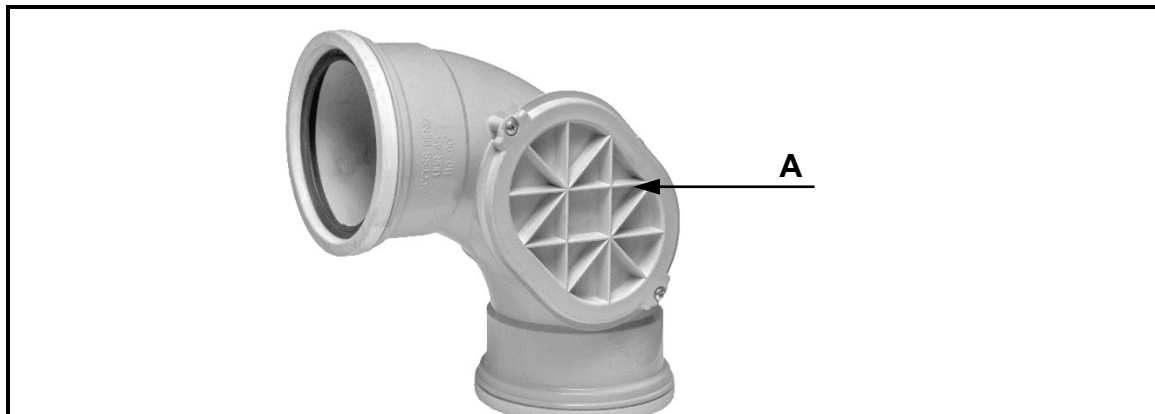

FIGURE 4.5
4.5 Answer the following questions regarding the soil water bend in FIGURE 4.5.